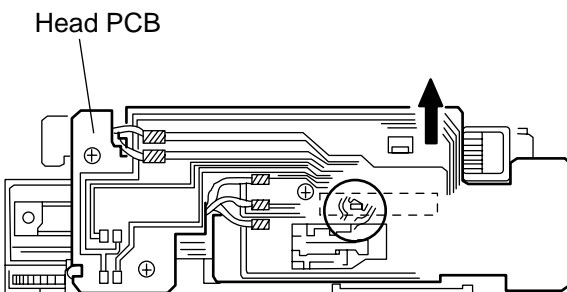

Fig.19
11. Solder the loading motor and head lead wires to the head relay PCB, respectively. (see Fig.19)